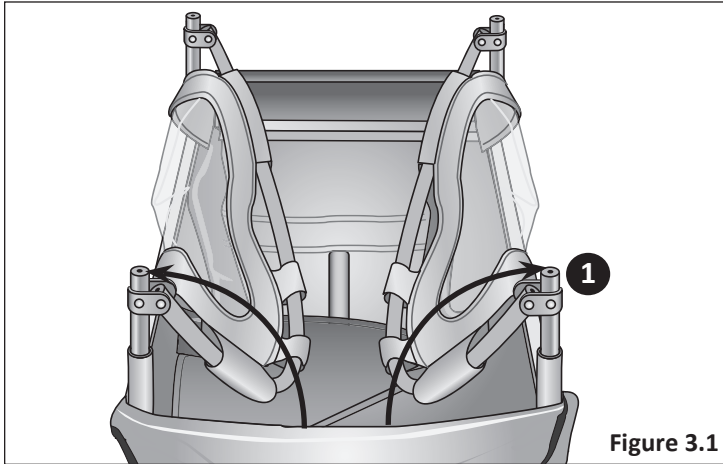

Figure 3.1
- 1** Unfold the side walls upward to a vertical position. **Figure 3.1**